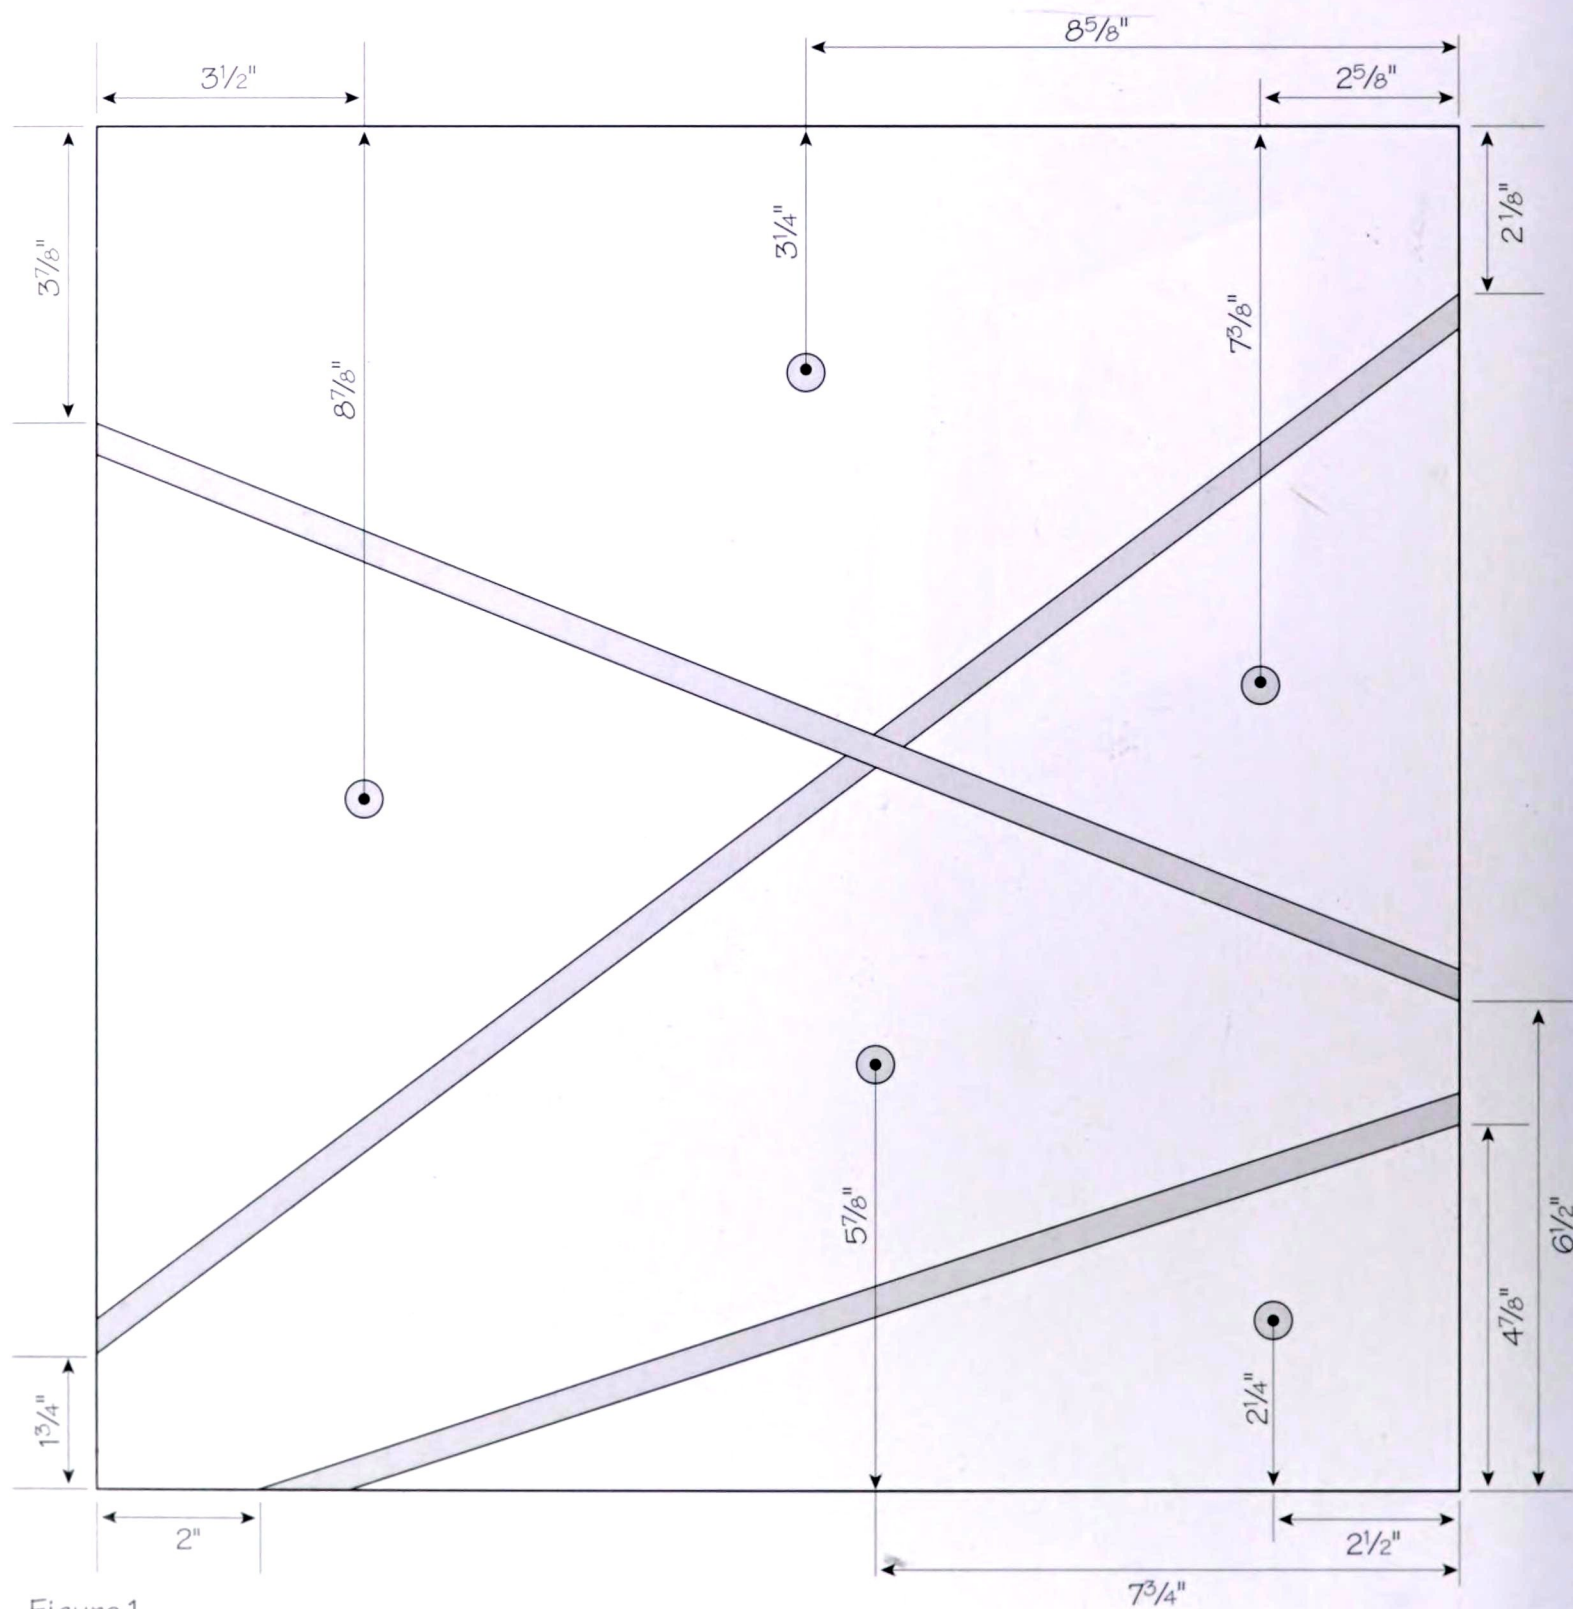

Figure 1
1. Flatten, thickness, joint, and edge glue material for the top (A). (Refer to Flattening, Thicknessing, and Jointing on page 8 and to Gluing Table Tops on page 10 for help.) Cut the top square but oversize, say 19" on a side, to allow for slippage while gluing the stripes.
2. Prepare three maple stripes (B) and five ash or maple dots (C). Cut the dots with a $\frac{1}{2}$ " plug cutter mounted in a drill press. The four-pronged kind of plug cutter works best.
3. Place the stripes and dots in position on the top. Where the stripes cross, simply let one lay atop the other. Notice how varying the placement of the various elements changes the composition. Mark the position of every piece when you are satisfied with your layout. Refer to figure 1 for Mark Taylor's arrangement.